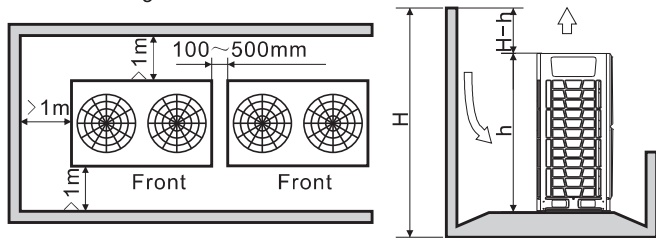

Fig. 3.13 Lower than surrounding barriers
7) When there is any barrier above the outdoor unit, please see Fig. 3.13.